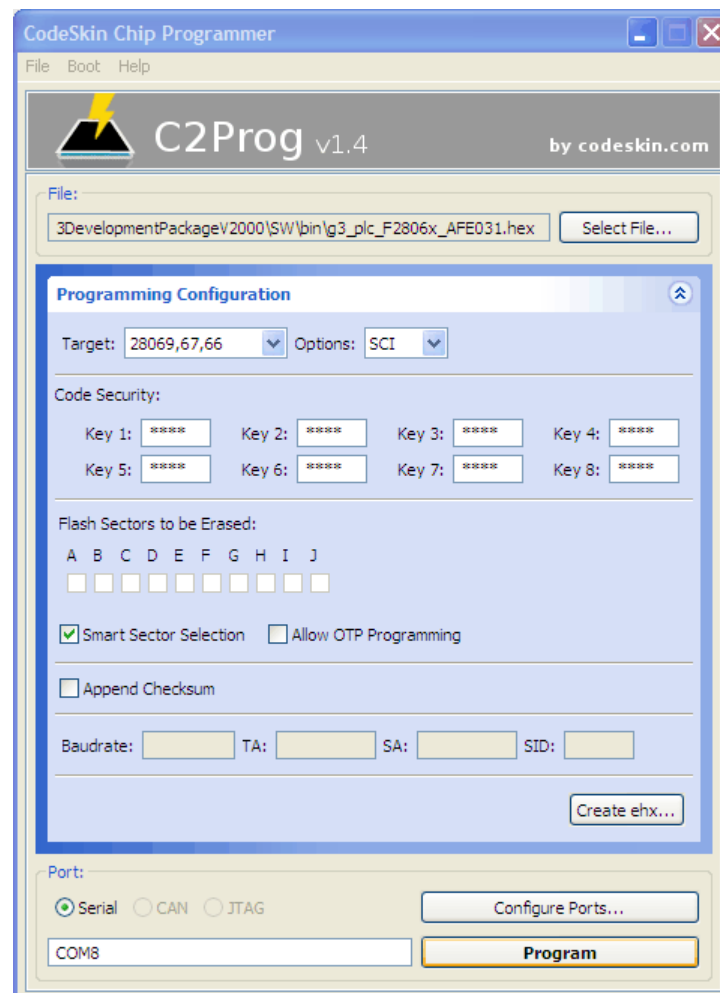

Figure 7. Programming Configuration Using Serial Port
6. Program the *.hex file (located in c:\Texas Instruments\<PackageName>\SW\bin) as shown in Figure 7. If a UART cable is used, serial port should be selected. Otherwise, if a USB-serial cable is used, JTAG port should be selected.